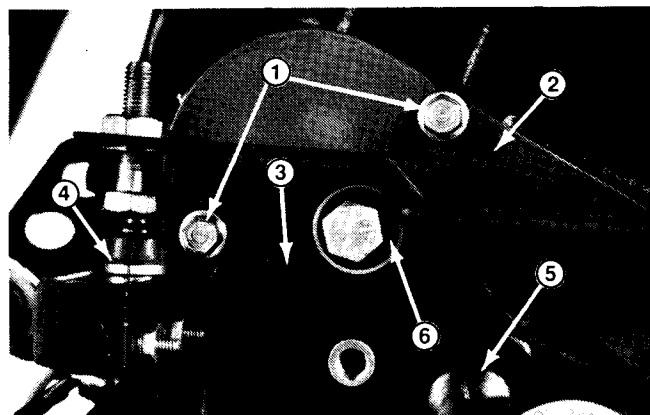

Figure 18
5. With engine OFF, loosen nut on carriage bolt and allow bearing to locate cam (Fig. 18). Carefully tighten nut on carriage bolt.
6. Loosen screws to allow neutral device bracket to move; but not freely (Fig. 18). Adjust neutral device bracket so that 40 ± 5 in-lb of torque on control lever just starts to rotate cam. Tighten screws.